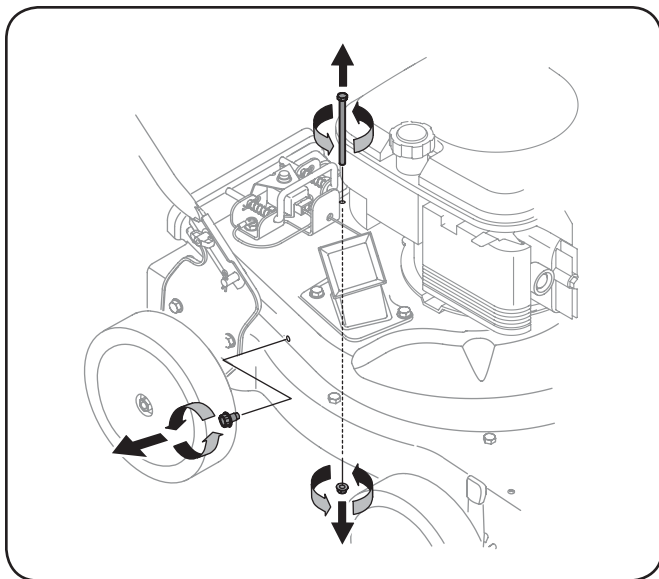

Figure 6-2
5. Remove hex screw on top of rear housing near mounting bracket and the flange lock nut that secures flail screen. See Fig. 6-2.